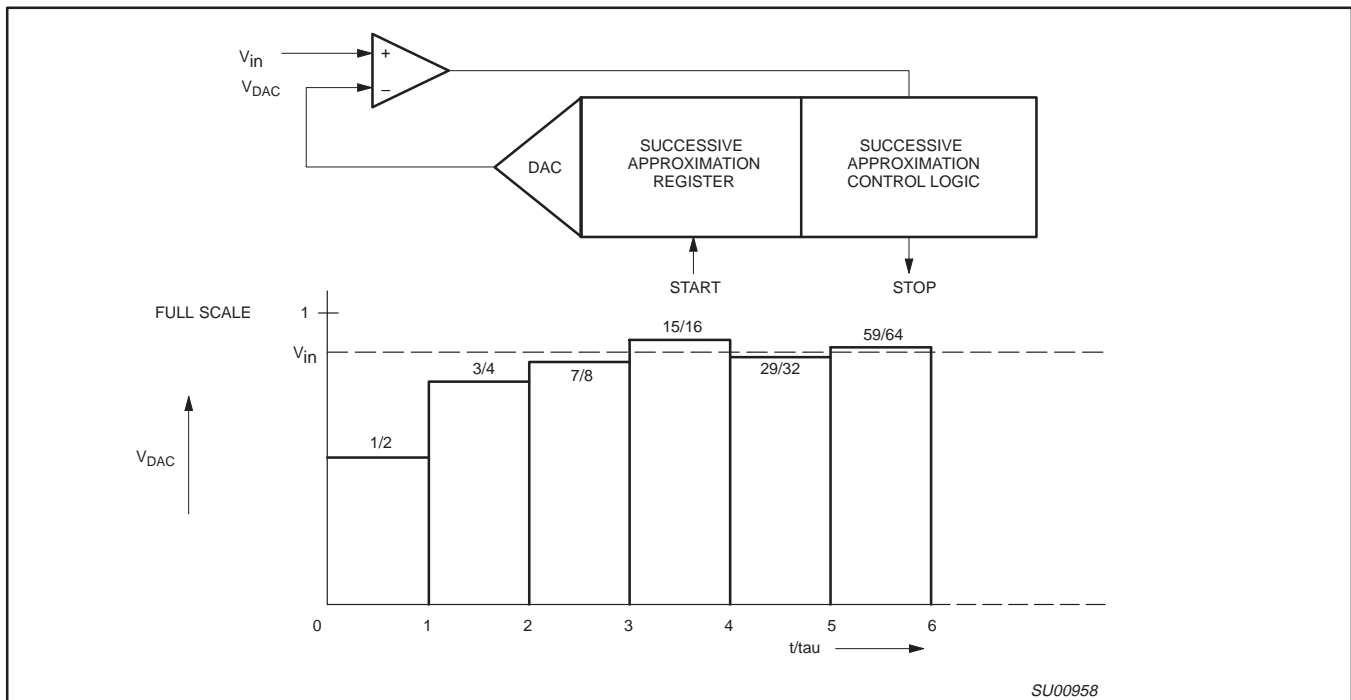

Figure 21. Successive Approximation ADC
**10-Bit Analog-to-Digital Conversion:** Figure 21 shows the elements of a successive approximation (SA) ADC. The ADC contains a DAC which converts the contents of a successive approximation register to a voltage (VDAC) which is compared to the analog input voltage (Vin). The output of the comparator is fed to the successive approximation control logic which controls the successive approximation register. A conversion is initiated by setting ADCS in the ADCON register. ADCS can be set by software only or by either hardware or software.